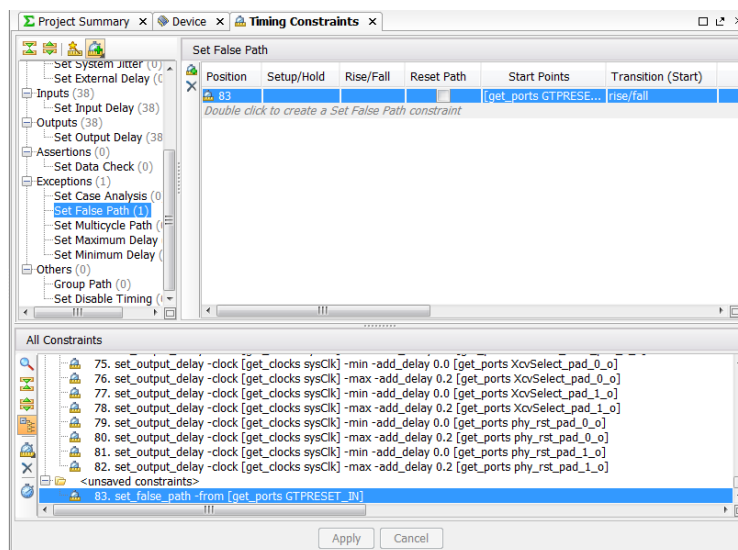

Figure 17: New set_false_path constraint in the constraint editor
12. Click **OK** to close the Create Clock wizard, and create the false path constraint as shown in Figure 17.